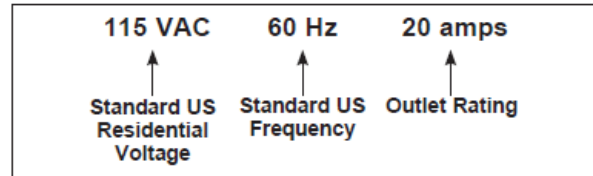
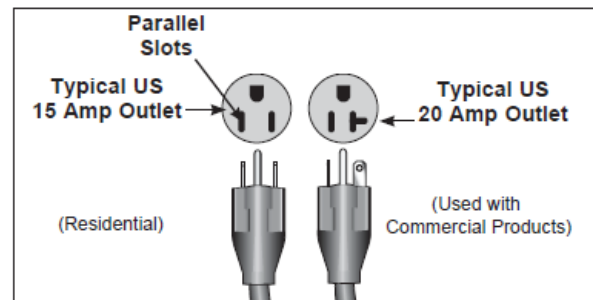

Figure 1
Figure 2
- Attach the safety clip to your clothing before each workout and when treadmill is in use. (See Fig 2)
TRUE's recommendation is to leave a minimum of 20" (0.5m) on each side of the treadmill and a 79" (2 m) safety zone at the rear of the treadmill. (See Fig 1)
For example, in the United States some TRUE treadmills require a circuit rated 115 VAC, 60 Hz and 20 amps. See Figure 1. However, a home typically has 15 amp outlets. In this case, contact an electrician to install a 20 amp dedicated line prior to use. See Figure 2.